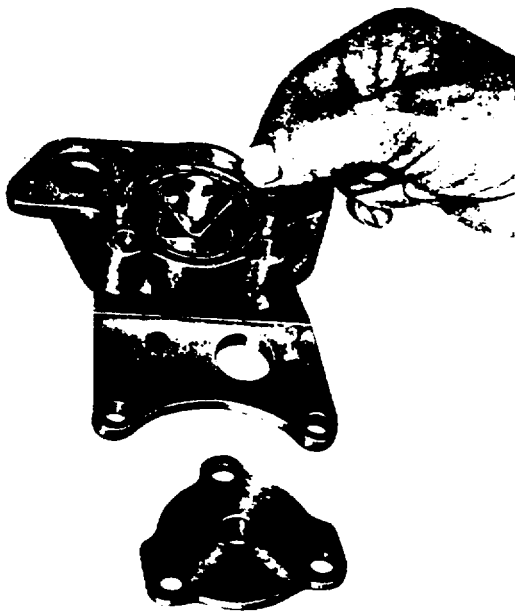

Fig. L.6.
5. Remove the "O" sealing ring from the pump body (where fitted). See Fig. L.6.